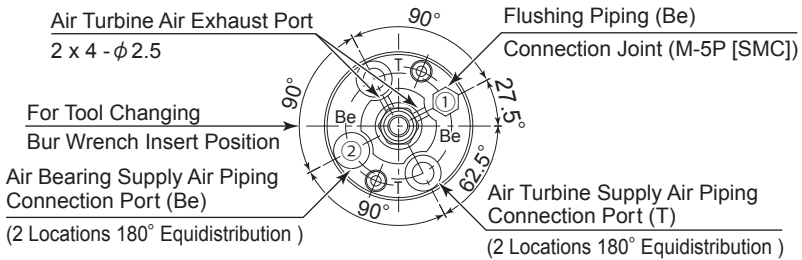

Fig. 25 Marking of the Piping Connection Section
- (1) Remove the Flushing Piping (Be) Connection Joint (M - 5P [SMC]) (Fig. 25 ①) from the Air Bearing Turbine Spindle.
- (2) Supply air to the Air Bearing Supply Air Piping Connection Port (Be) (Fig. 25 ②) of 180 degree other side.
- (3) Attach the cleaned and air blew Flushing Piping (Be) Connection Joint (M - 5P [SMC]) (Fig. 25 ①) to the Air Bearing Turbine Spindle.
- (4) Supply air to the air bearing.
- (5) Check the non-air leak from the " Flushing Piping (Be) Connection Joint (M - 5P [SMC]) (Fig. 25 ①) " connection section of rear end of the Air Bearing Turbine Spindle.